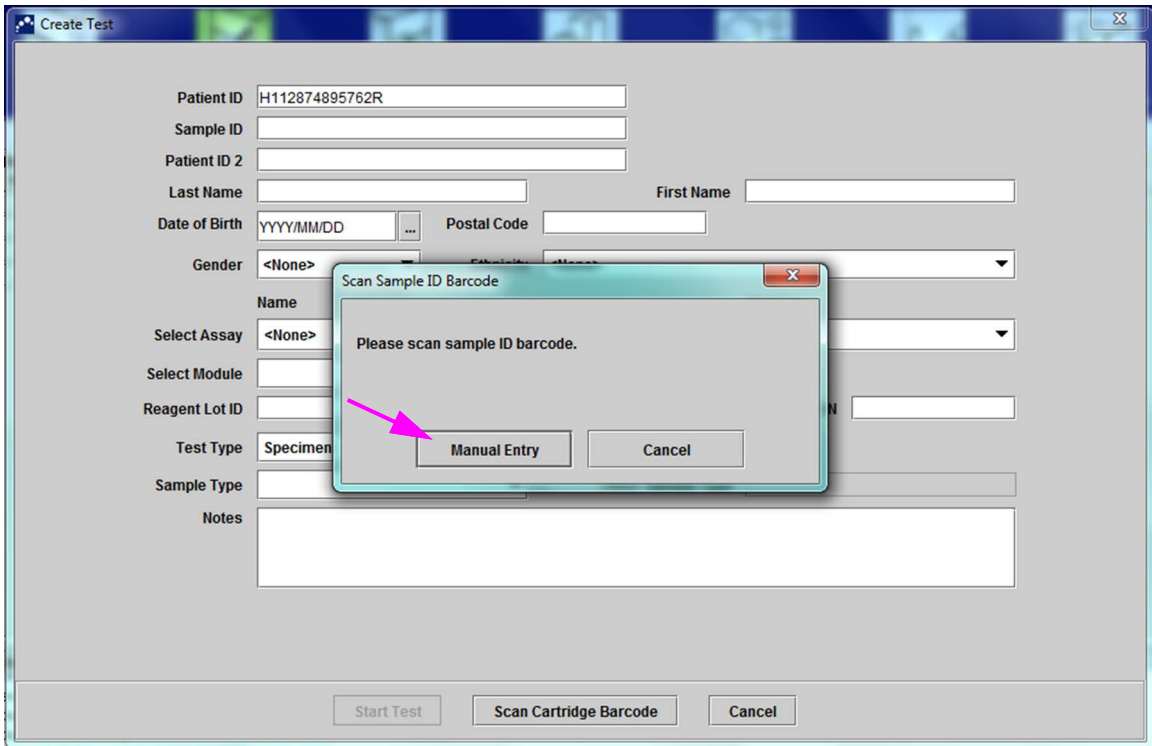

Figure 5-18. Create Test Window and Scan Sample ID Barcode Dialog Box
2. Scan the Patient ID barcode using the supplied barcode scanner. See Section 5.5. The Scan Sample ID dialog box appears. See Figure 5-18.